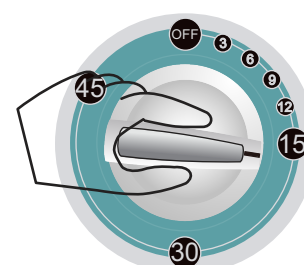

Figure 4
- Install the two drain hose fixing hooks taken out into the installation hole at the other side of the base frame (to aim at the installation hole accurately you can lean the washing machine forward slightly). Then rotate for 90° (As per Figure 4).
Select the washing time according to the laundries. (Figure 4)